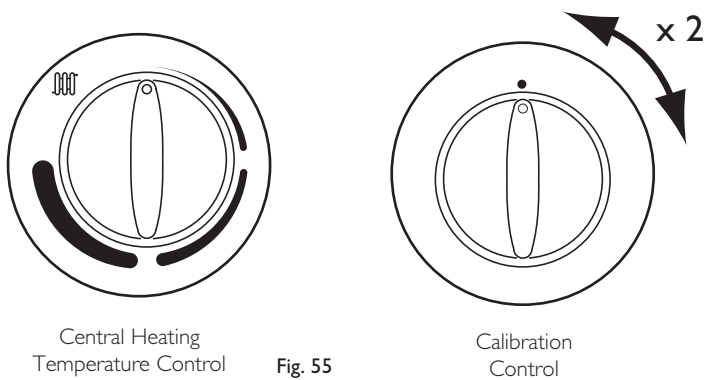

Fig. 55
3. Ensure that the integral timer and any external controls are calling for heat, and the selector switch is in the central heating and hot water position (SF). The current boiler temperature is shown on the display.
5. Turn both temperature control knobs fully anticlockwise, then quickly turn the Calibration Control knob 1/4 clockwise twice and back fully anticlockwise (Fig. 55).